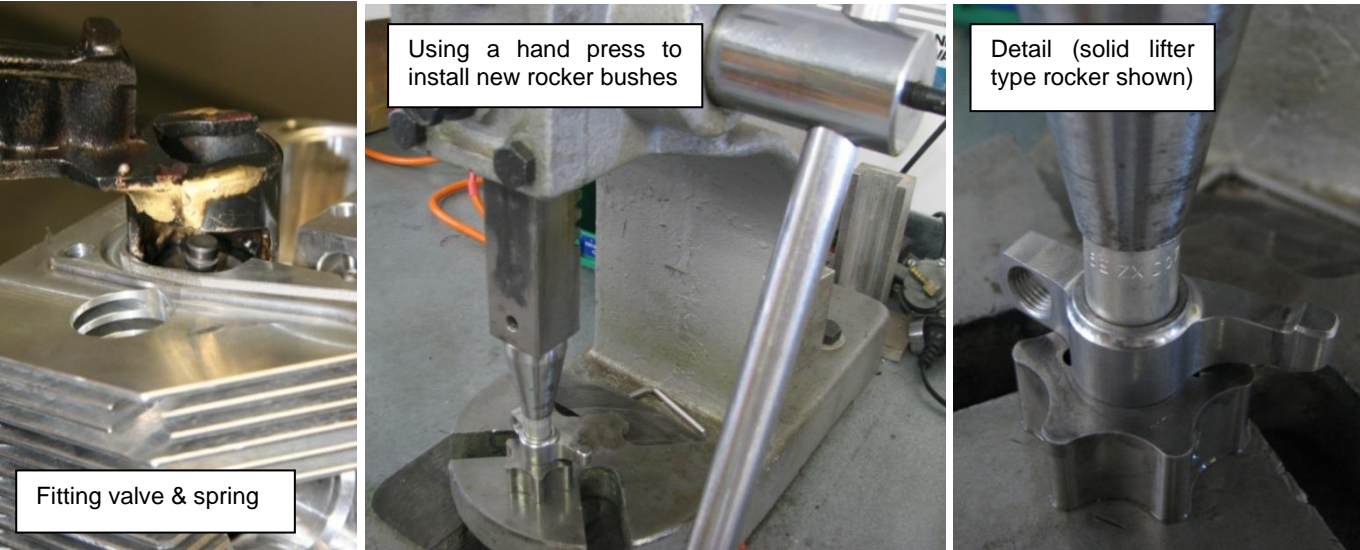

Figure 147 – Fitting Valves to Head, Fitting Bushes to Rockers
- Fit new O rings (2) to the rocker shaft bore of the cylinder head and 2 new O rings to the pushrod tube bores. Use Nulon L90 to lubricate the O rings for assembly and to prevent damaging them while fitting the rocker shaft and pushrod tubes. Do not use rubber grease as it will attack these O rings and metal parts. Note that the large rocker cover O ring is fitted later in the assembly process.
- Lubricate the valves and valve guides using oil, then fit the valve springs and collets to the cylinder head using a spring compressor as shown in Figure 147. Ensure that the lower steel washer (shown at the lower left of Figure 97 – left) is fitted to the base of each spring.
- Note that the rocker shaft and valve rockers are fitted later in the assembly process. However now is the time to fit new bushes to the rocker arms (if needed). A special tool and a hand press (as shown in Figure 147) simplifies this job. Orient the new bushes so that the joint in the bush is pointing away from the crankshaft. Additional details are shown in section 5.11.8.